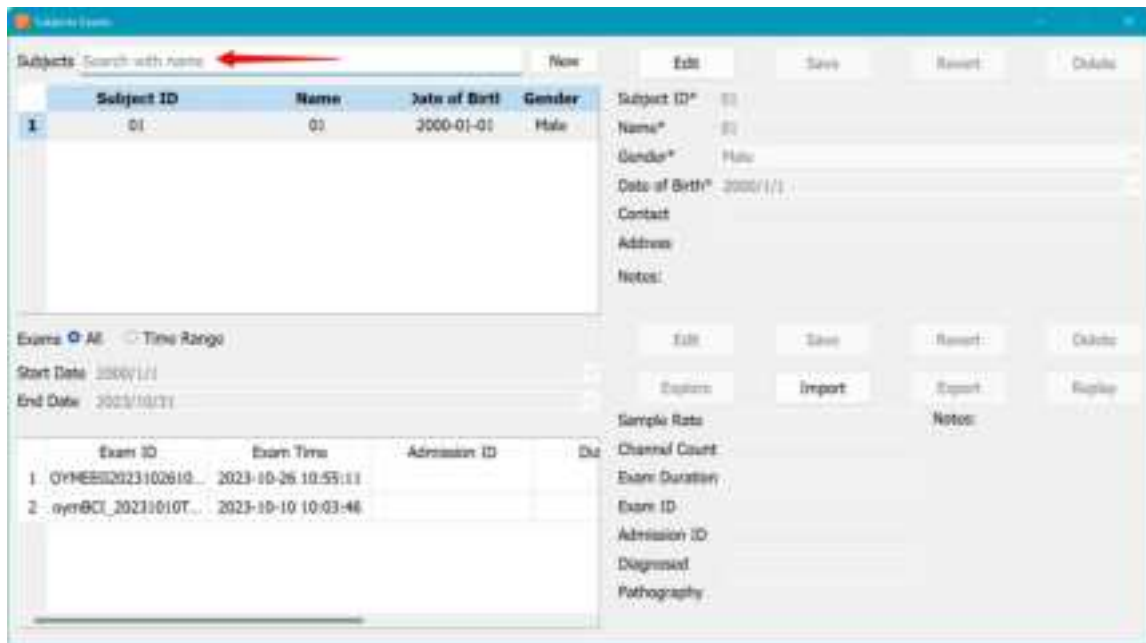

Figure 5.3.2.1-3
- View test object information: Click to select the test object you want to view, and the corresponding information will be displayed on the right side of the list, as shown in Figure 5.3.2.1-4.